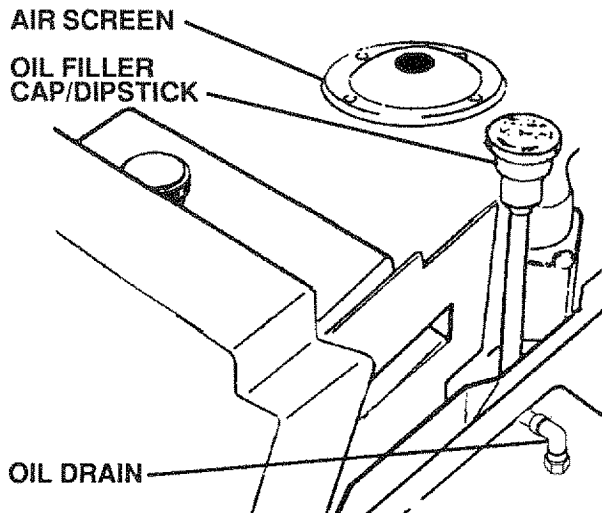
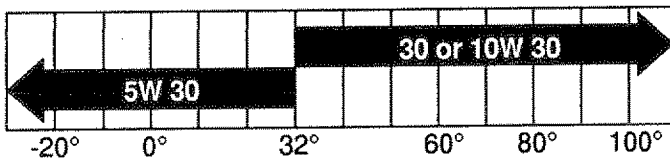

FIGURE 18
FIGURE 19
- b. Loosen oil drain plug and remove dipstick (Fig. 18).
- e. Refill engine oil (Fig. 19). Refill capacity is 1-1/2 quarts (1.42 litres). NOTE: DO NOT OVERFILL.
Several minutes after stopping engine, check engine oil level with tractor on level ground. Wipe dipstick (Fig. 18) clean, push it down tight for a few seconds, remove and read oil level. If necessary, add oil until "FULL" mark is reached (See Figure 19).
The best time to change engine oil is at the end of a day's operation when all dirt and foreign materials are suspended in the hot oil (See Fig. 19).